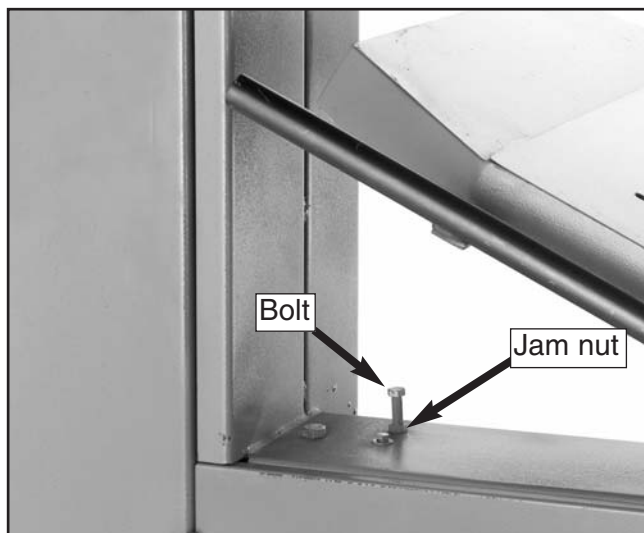

Figure 19. Positive stop and jam nut.
The positive stop under the table (see **Figure 19**) allows you to repeatedly square up the table after adjusting the table to another angle.
2. Loosen the jam nut on the positive stop bolt shown in **Figure 19**.